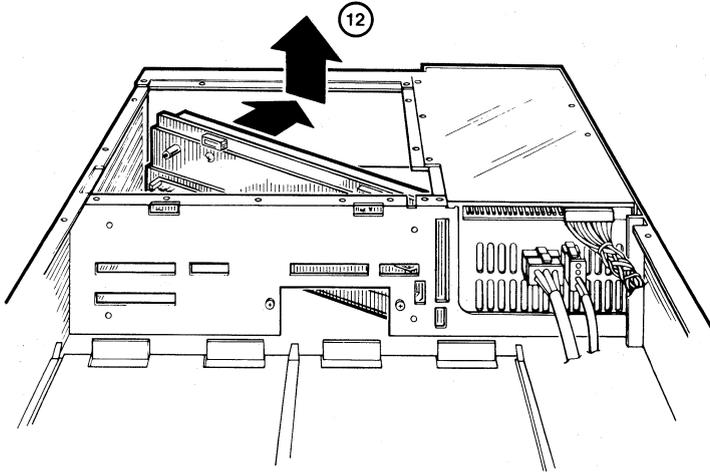

Figure 6-18 Removing Access Cover and Screws
10. Loosen the two screws retaining the small access cover. Remove the cover and disconnect the cable from side two of the backplane (Figure 6-18).